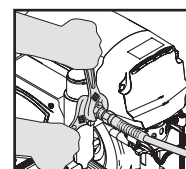

Fig. 7
1. Connect the airless hose to the machine. Tighten securely. (Fig. 7)